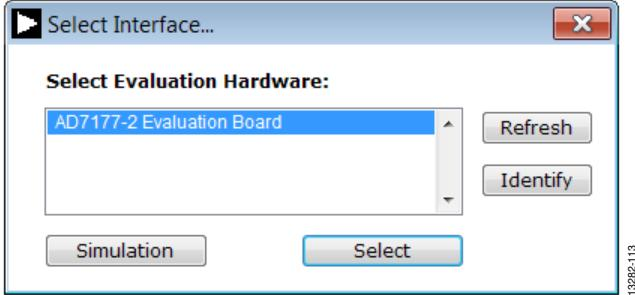
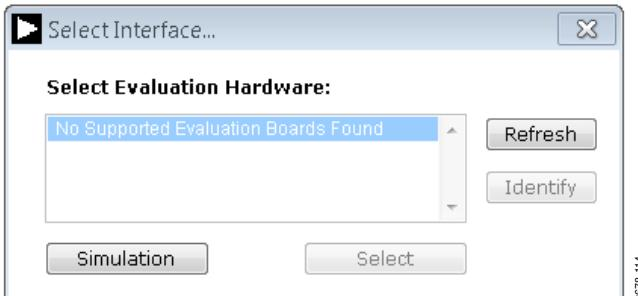
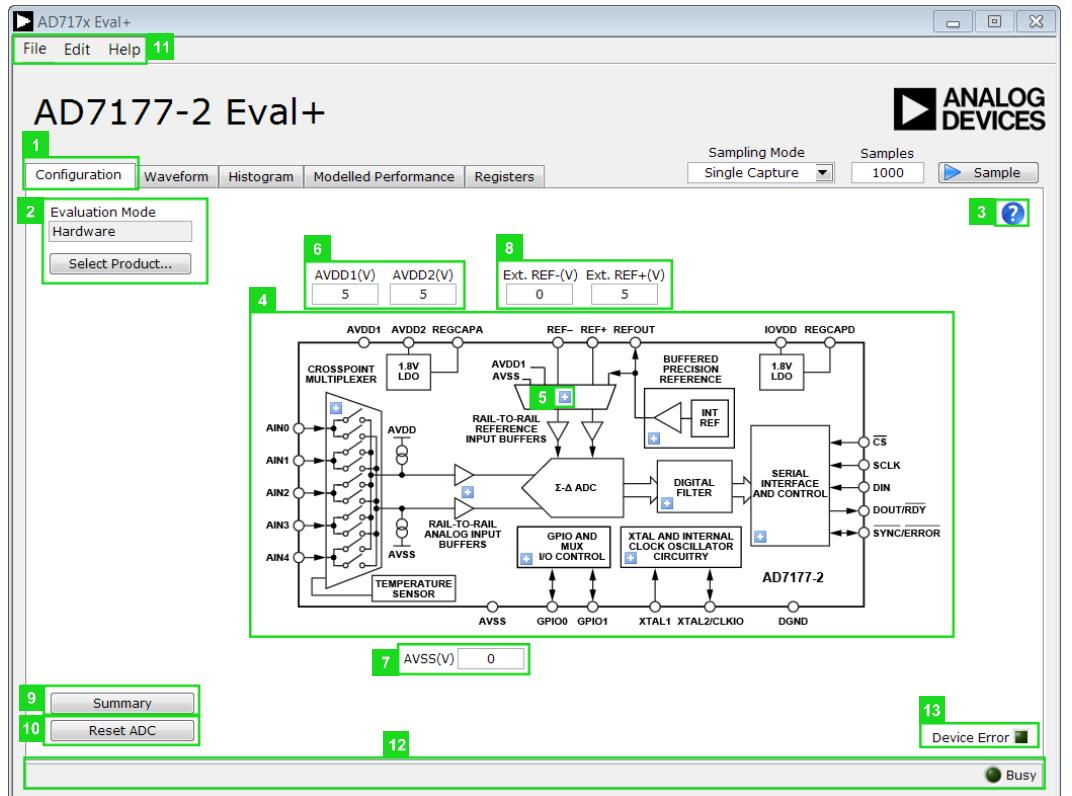
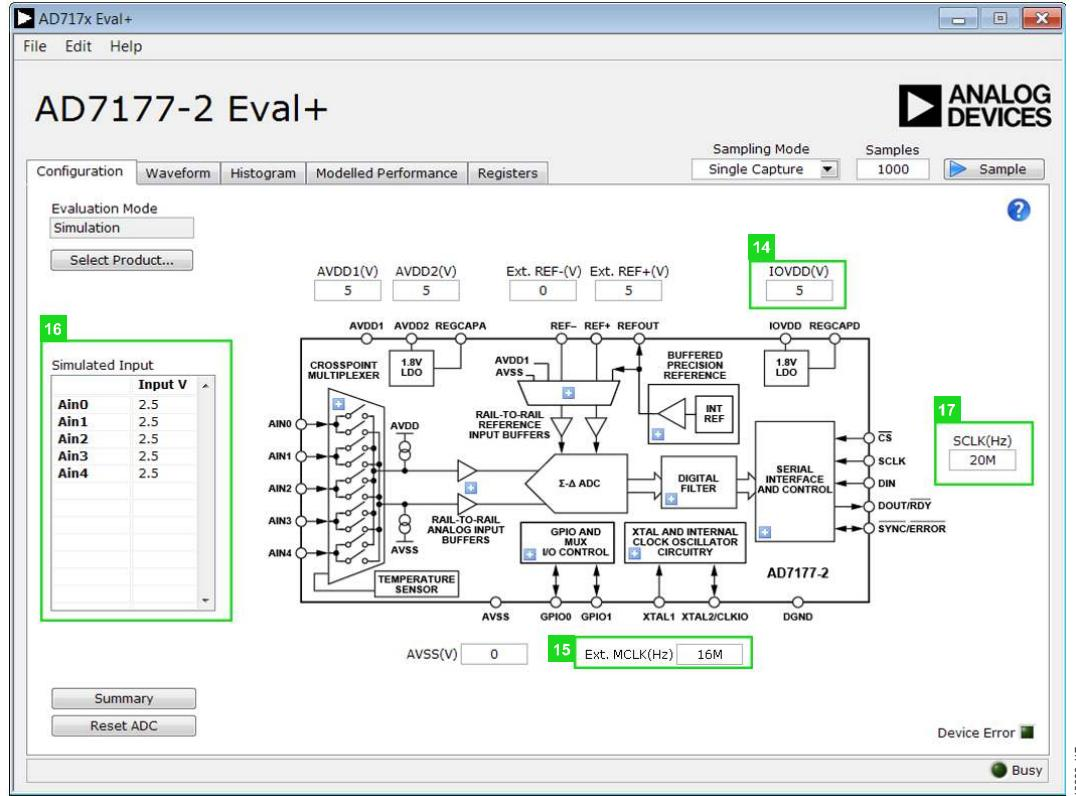

Figure 13. AD7177-2 Evaluation Board Selection
Figure 14. Evaluation Board Selection, No Board Connected
Figure 16. Configuration Tab of the AD717x Eval+ Software in Hardware Mode
Figure 17. Configuration Tab of the AD717x Eval+ Software in Simulation Mode
- The dialogue box in Figure 13 appears; select AD7177-2 Evaluation Board and click the Select button. The main window of the software box displays as shown in Figure 16.
- If the EVAL-AD7177-2SDZ evaluation system is not connected to the USB port via the SDP-B when the software is launched, the software displays the dialog box shown in Figure 14. Connect the evaluation board to the USB port of the PC; wait a few seconds, click Refresh and the option shown in Figure 13 appears.
Figure 16 shows the **Configuration** (1) tab when **Hardware** mode is selected and Figure 17 shows the **Configuration** tab when **Simulation** mode is selected. The controls highlighted in Figure 17 are only available in **Simulation** mode.
The **Evaluation Mode** (2) pane displays the evaluation mode in use. To switch between modes, click the **Select Product...** button, and the dialog box shown in Figure 13 appears.
The text fields labeled 6, 7, and 14 in Figure 16 and Figure 17 are input fields that are used to take the supply voltage levels selected for the **AD7177-2**. Checks are performed to ensure that the power supply voltage levels entered are within the specified limits. These power supply voltage levels are also used for the modelled performance to calculate the power dissipation.